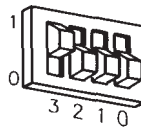

Figure 5-17.
- If connecting an HP 2601A printer, an HP 39800/01A bar code reader, or an HP 92205A/C *Hayes Smartmodem 1200* to this interface, set the baud rate switches to 1200. To get 1200 baud, set switch 3 to *1*, and set switches 2, 1 and 0 to *0*. The switches will look like the one in Figure 5-17: